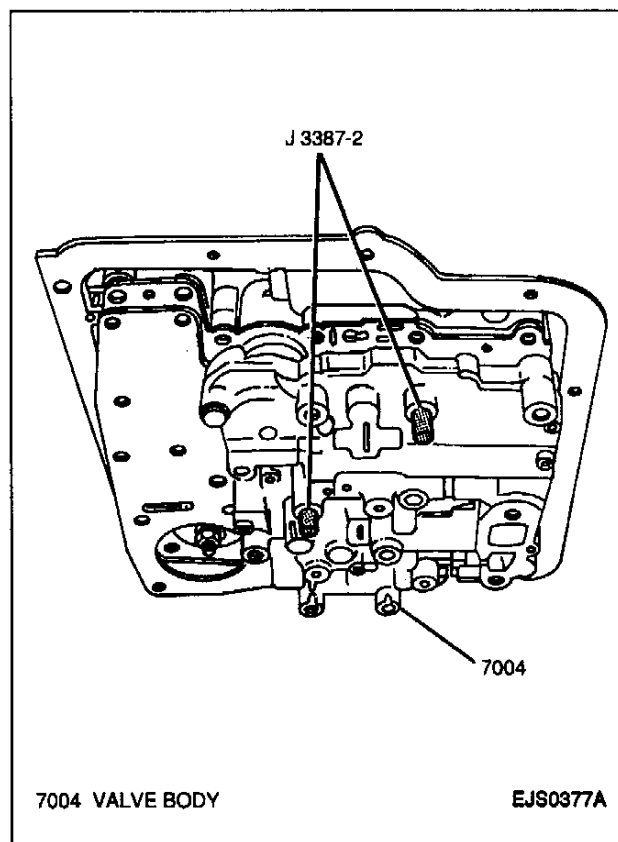

Figure 46—Installing Valve Body (3L30, 3-Speed)
11. Check ball, transfer plate gaskets, transfer plate, valve body and manual detent roller onto transmission case aligning valve body with transmission case using the J 3387-2; secure with nine bolts (Figure 46).